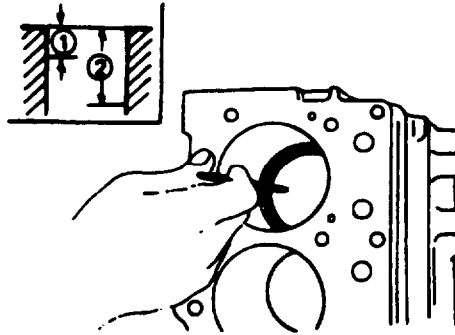

FIGURE 3-82. Measuring Piston Ring Gap
- (2) Using an inverted piston, push piston ring into cylinder liner approximately 0.39 in. (10 mm) or to the point where diameter of liner is smallest.
- (3) Using a feeler gage, measure piston ring gap. Standard gap for three compression rings is 0.0079 to 0.0158 in. (0.2 to 0.4 mm). Standard gap for oil ring is 0.0039 to 0.0118 in. (0.1 to 0.3 mm) The limit for gap is 0.0591 in. (1.5 mm), refer to FIGURE 3-82.
- (4) Inspect piston ring groove for damage or distortion. If damage or distortion is found, replace piston.